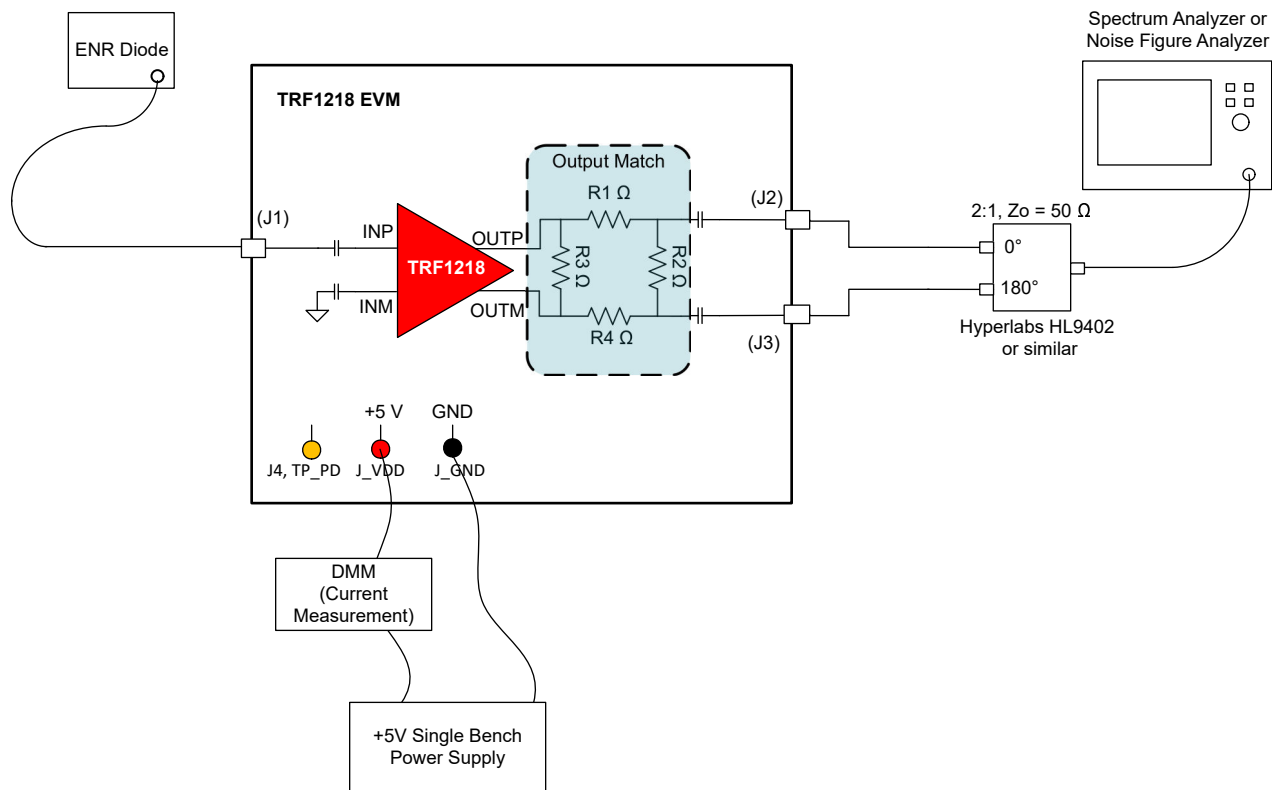

Figure 2-2. Noise Figure Test Setup
1. Figure 2-2 shows the traditional Y-factor method for NF measurement, using a noise diode and a spectrum analyzer (or a noise figure analyzer).